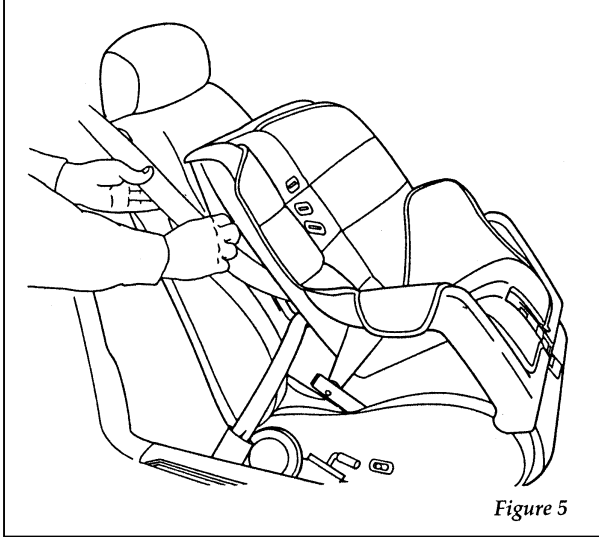

Figure 5
6. Pinch both layers of webbing together and insert into other slot of locking clip. See Figure 5.
6. Allow the belt to retract. Pull up on the shoulder webbing. A clicking sound will be heard as the belt retracts. This indicates the retractor is in the automatic locking mode. Push down on the child seat while you pull up on the belt to remove any slack in the belt. See Figures 5 and 6.